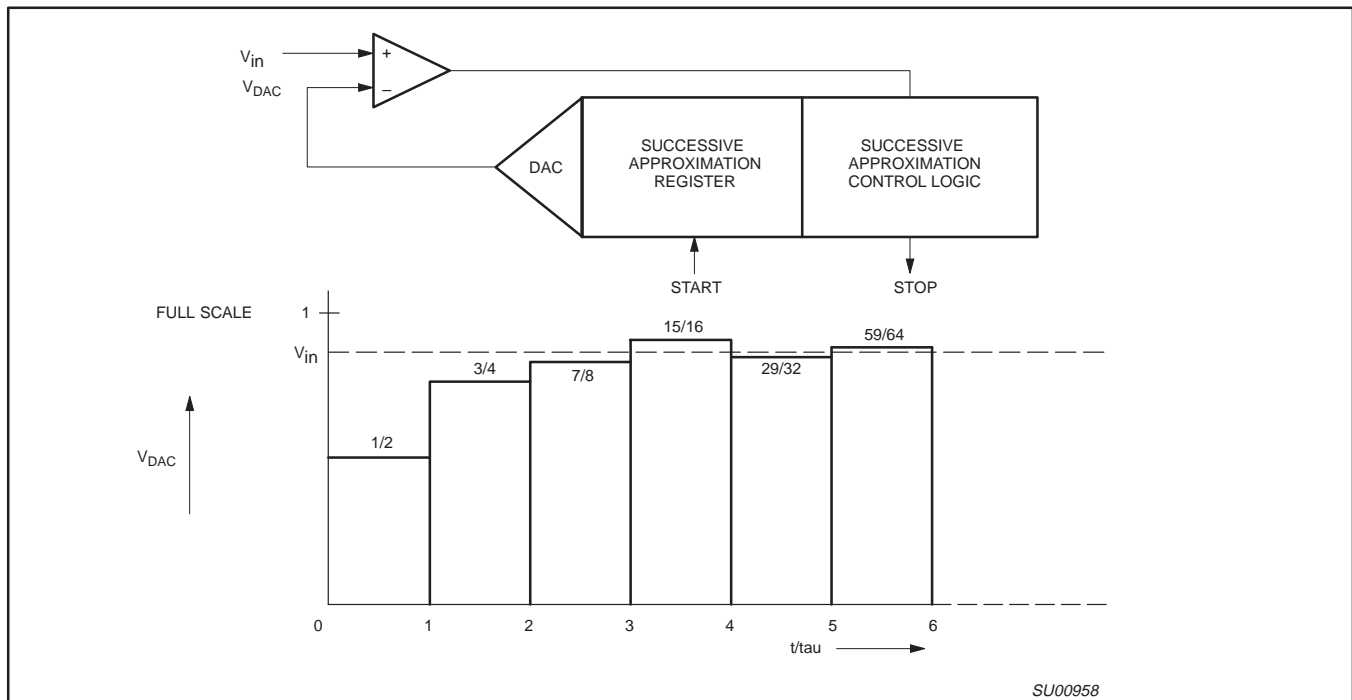

Figure 21. Successive Approximation ADC
10-Bit Analog-to-Digital Conversion: Figure 21 shows the elements of a successive approximation (SA) ADC. The ADC contains a DAC which converts the contents of a successive approximation register to a voltage (VDAC) which is compared to the analog input voltage (V_{in}). The output of the comparator is fed to the successive approximation control logic which controls the successive approximation register. A conversion is initiated by setting ADCS in the ADCON register. ADCS can be set by software only or by either hardware or software.